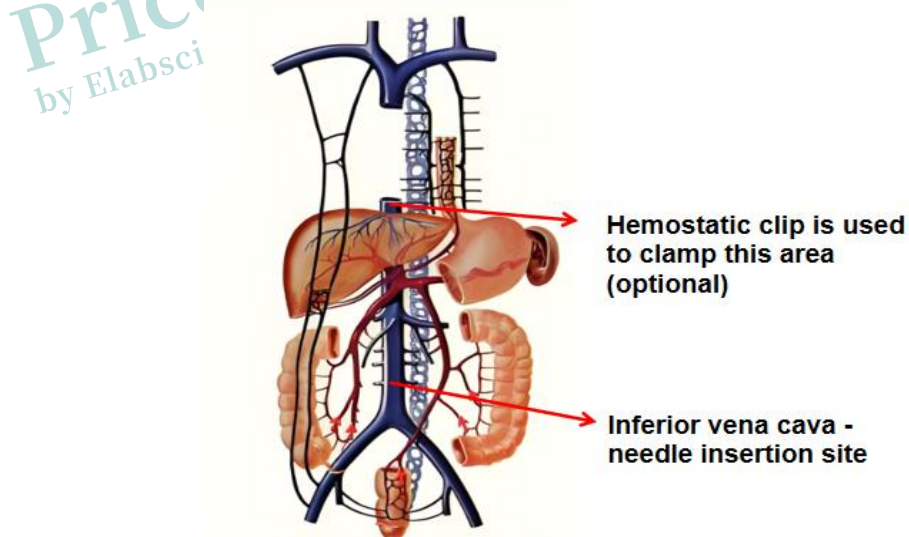

Figure 1. Portal vein system and perfusion needle site
- ① Preparation: Place two clean culture plates in the ultra clean bench. Arrange sterilized scissors and forceps in pairs from left to right on two clean culture plates (Ophthalmic Scissors 1 and Straight Forceps 1, Ophthalmic Scissors 2 and Straight Forceps 2, Curved Forceps 1, Curved Forceps 2, and Curved Forceps 3).
- ② Dissection: First, incise the mouse skin along the midline of the abdomen with Ophthalmic Scissors 1. Lift the skin along the incision site with Straight Forceps 1, and use Ophthalmic Scissors 1 to cut open the skin horizontally towards the limbs. Bluntly dissect the skin and subcutaneous tissue toward both sides to expose the superficial muscle layer of the abdominal wall. Continue to use Straight Forceps 1 to pull the skin to both sides and peel it down below the abdomen. Then use Ophthalmic Scissors 2 to incise the diaphragm of the mouse abdomen, and use Straight Forceps 2 to gently retract the diaphragm down below the abdomen.
**Note: (Optional Operation)** After incising the abdominal diaphragm, proceed to incise the thoracic diaphragm along the upper edge of the liver. Find the inferior vena cava above the liver and clamp the vein at this site with a hemostatic clip (Figure 1). This step allows the subsequent digestive solution to fully flow through the liver tissue and exit through the hepatic portal vein, improving digestion efficiency. If it is not possible to accurately locate the inferior vena cava above the liver and promptly complete the subsequent steps, please ignore this step.
mouse to fully expose the inferior vena cava). Take a perfusion needle (exhaust all air) and connect the inlet end of it to a centrifuge tube or bottle containing Pre-perfusion Solution For Mouse Hepatic Parenchymal Cells. The needle should be parallel to the inferior vena cava, with the oblique plane of the needle pointing upwards. Insert it into the inferior vena cava (the injection position is shown in Figure 1), and insert the needle tip above the bifurcation of the blood vessel. Fix the perfusion needle and use other auxiliary materials (such as syringe needles) to keep the needle still and avoid puncturing the blood vessel. Gently pull out the needle core, then the blood in the blood vessel can be seen to flow out with the needle core. At this time, the outer tube is left in the blood vessel for perfusion.
exposing the inferior vena cava and hepatic portal vein of the mouse (a pipette tip can be placed under the mouse to fully expose the inferior vena cava). Take the perfusion needle (exhaust all air) which has been connected to the syringe containing Pre-perfusion Solution For Mouse Hepatic Parenchymal Cells. The needle should be parallel to the inferior vena cava, with the oblique plane of the needle pointing upwards. Insert it into the inferior vena cava (the injection position is shown in Figure 1), and insert the needle tip above the bifurcation of the blood vessel. Fix the perfusion needle and use other auxiliary materials (such as syringe needles) to keep the needle still and avoid puncturing the blood vessel. Gently pull out the needle core, then the blood in the blood vessel can be seen to flow out with the needle core. At this time, the outer tube is left in the blood vessel for perfusion.